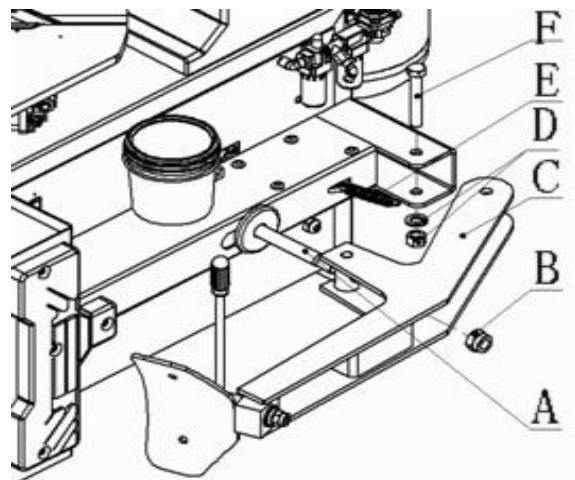

Fig 4-11
4.2.16 Unscrew the stop nut (Fig4-11 B) from the top end of bead breaker piston rod and unscrew the bolt connect on the machine cabinet (4-11 F) (4-11 D) . As per the instruction of Fig4-11, insert the bead breaker blade (4-11 C) through the cylinder piston rod (4-11 A) . Hang one end of the bead breaker arm spring (4-11 E) on the machine cabinet and then insert the bolt (4-11 F) through the machine cabinet and blade and use the nut and flat washer (4-11 D) and bolt (4-11 F) to connect and fix. Tighten the stop nut (4-11 B) and bead breaker cylinder piston. Hang the other end of the bead breaker arm spring (4-11 E) Fig 4-11 on the spring pin shaft (4-12 A)